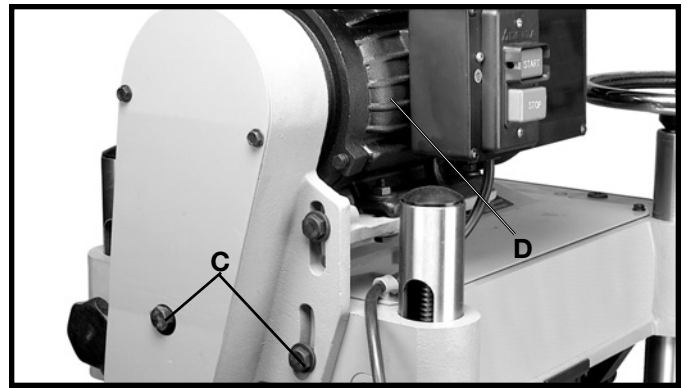

Fig. 32
3. Loosen two screws (C) Fig. 32, and pivot motor assembly (D) to the front. **NOTE:** Belt tension is not disturbed when pivoting the motor forward.